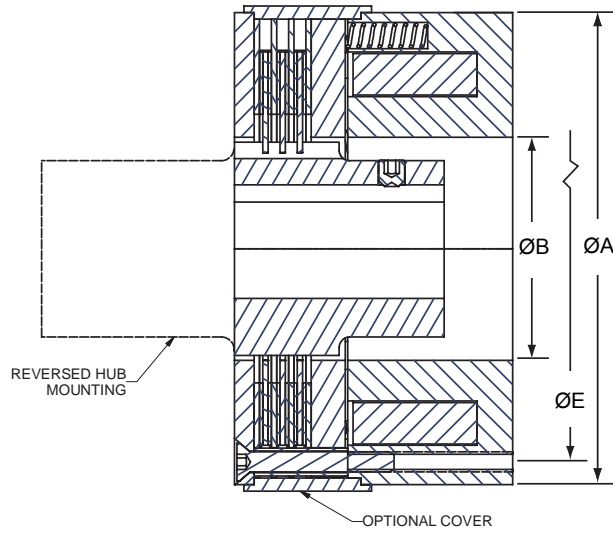

Figure 2
The brake may be piloted on the O.D. ($\varnothing A$ in Figure 2) or on the Bore Diameter ($\varnothing B$ in Figure 2).
Dimensions for the different FEB brakes are shown in "***BRAKE MECHANICAL SPECIFICATIONS***" on Page 6, together with the diameter of the Bolt Circle ($\varnothing E$ in Figure 2).
- 4 See Figure 2